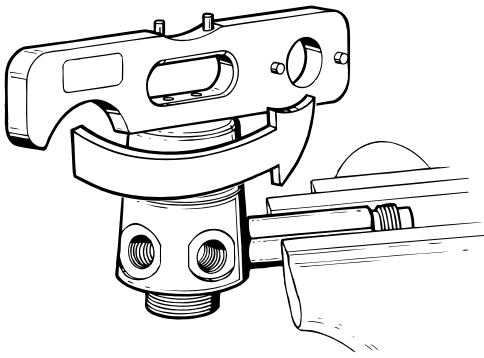

Fig. 2a - Loosening piston cap w/ Quad Spanner Wrench
10. Remove and discard the yoke O-ring(11) from the inlet boss.
11. Loosen the vise and turn the first stage over so that the piston cap faces straight up, and refasten the vise securely onto the vise mounting tool. Apply the No. 3 spanner of a Quad Spanner Wrench (P/N 1077-50) or an Adjustable Face Spanner (P/N 1073-94) to loosen the piston cap(22) from the main body in a counter-clockwise direction (see Fig. 2a & 2b).